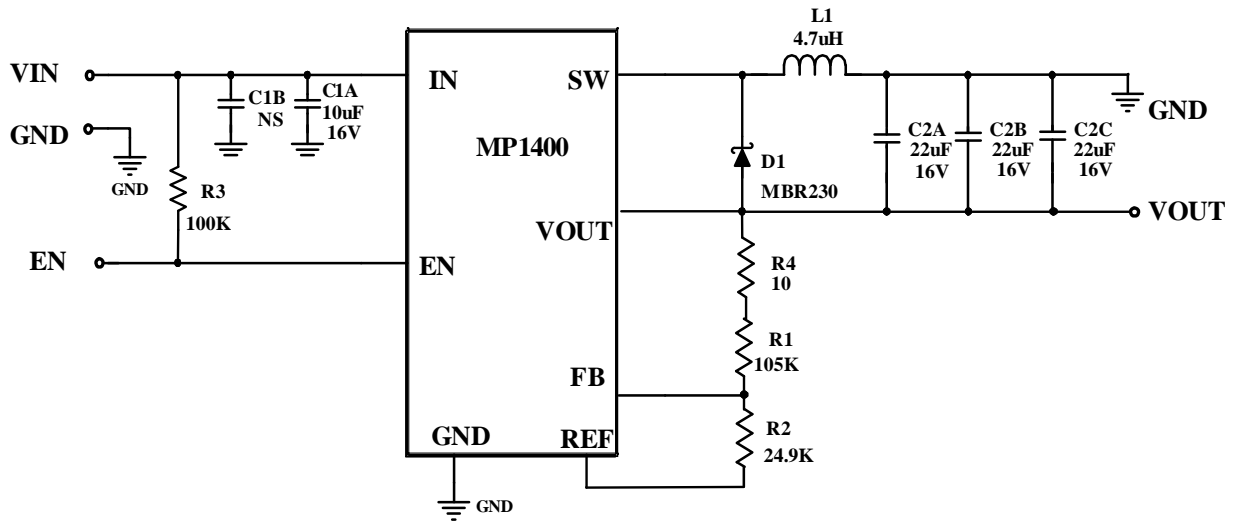

Figure 3: 5V_{IN}, -5V/0.6A Output
- 7) The recommended layout is based on the Figure 3 Typical Application circuit on the next page.
The detailed application schematic is shown in Figure 3. The typical performance and circuit waveforms have been shown in the Typical Performance Characteristics section. For more device applications, please refer to the related Evaluation Board Datasheets.